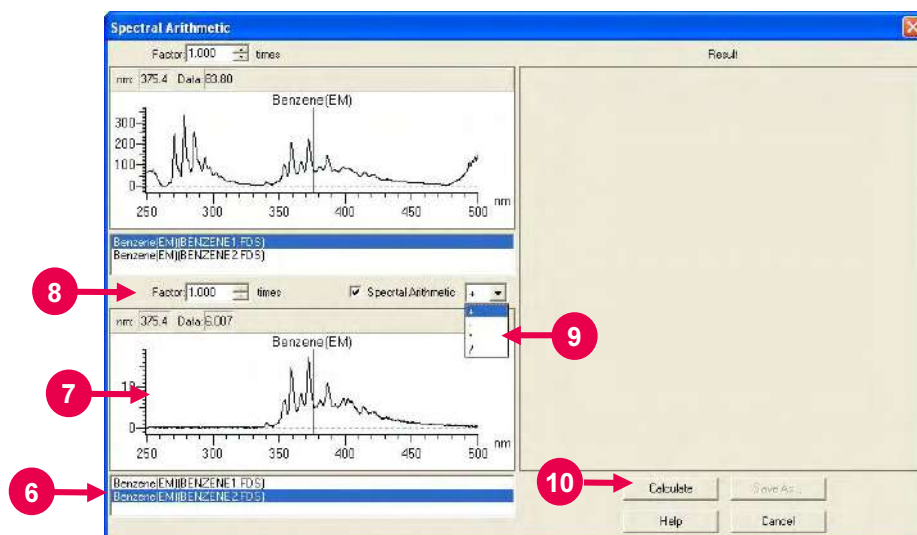

Fig. 7-30
(6) The sample names for the files opened in the window (file names in parentheses) are listed. From this list, select another file for arithmetic operation. (Refer to ⑥ in Fig. 7-30.)
(7) The spectrum selected in (6) is displayed. (Refer to ⑦ in Fig. 7-30.)
(8) Set a factor for the spectrum selected in (6). (Refer to ⑧ in Fig. 7-30.)
(9) Select a mathematical operator for the two spectra. (Refer to ⑨ in Fig. 7-30.)
(10) After setting of a mathematical operator, click **Calculate**. (Refer to ⑩ in Fig. 7-30.)